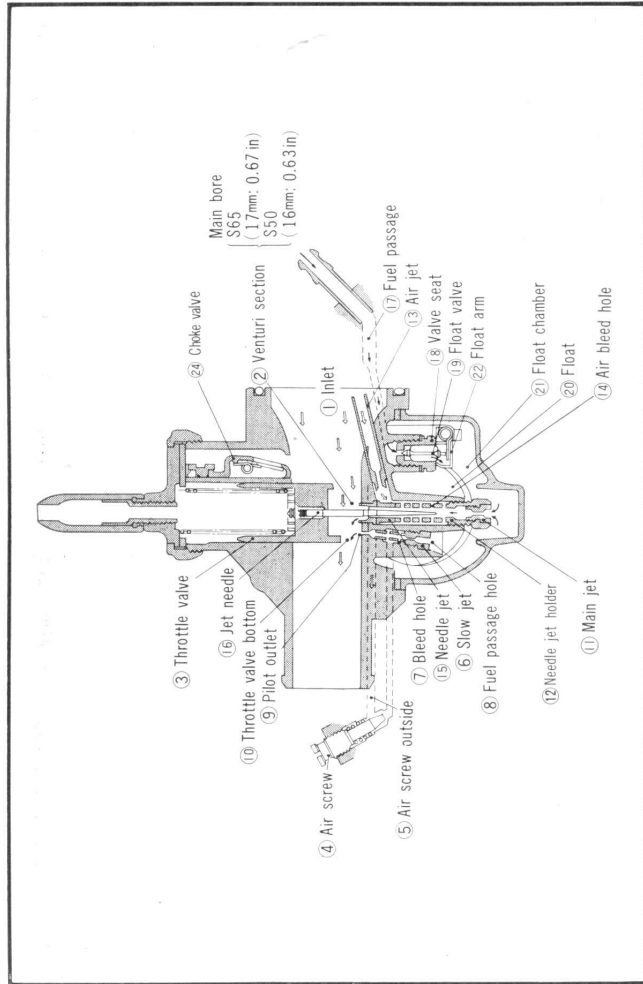

Figure 3-107. Carburetor cross sectional diagram
The air which passes through the air cleaner enters from inlet opening (1), passes under throttle valve (3) (main bore (2)) and taken into the inlet side of the engine. The power output is determined by the volume of air taken into the engine. This necessary air flow is controlled by the vertical movement of the throttle valve which varies the area of the main bore (2). (Fig. 3-107)
The air which flow through the main bore (2) creates a low pressure directly under the throttle valve. It is here that the fuel outlets for both the main and slow systems are located. (Fig. 3-107)
The fuel passes through main jet (11) and enters the needle jet holder (12). The fuel mixes with the air taken in at air jet (13) and bled through air bleed hole (14). The fuel air mixture passes between needle jet (15) and jet needle (16), and discharges in a spray below the throttle valve (3). The fuel is atomized and mixed with the main air stream and is taken into the engine. (Fig. 3-107).